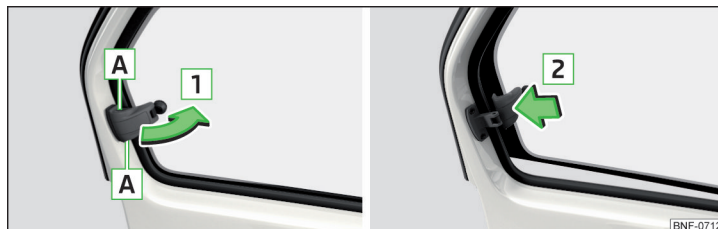

Fig. 37 Opening/closing rear windows
- To **open**, grasp the safety catch in recess **A** » Fig. 37.